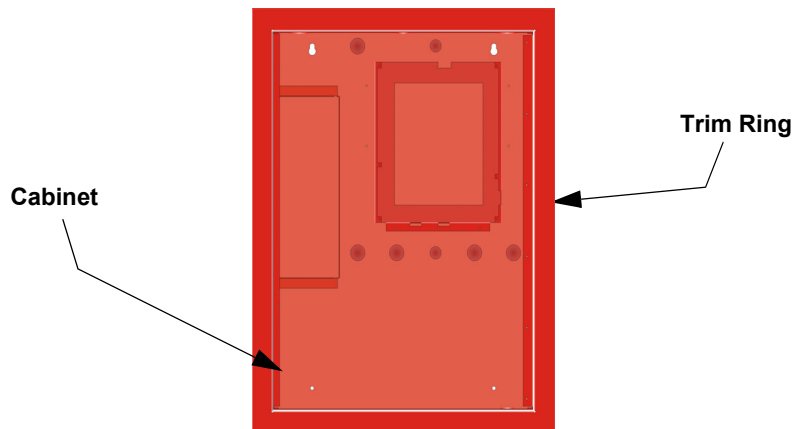

Figure 3-3 Trim Ring Around cabinet
4. Place the trim ring around the cabinet. See Figure 3-3.